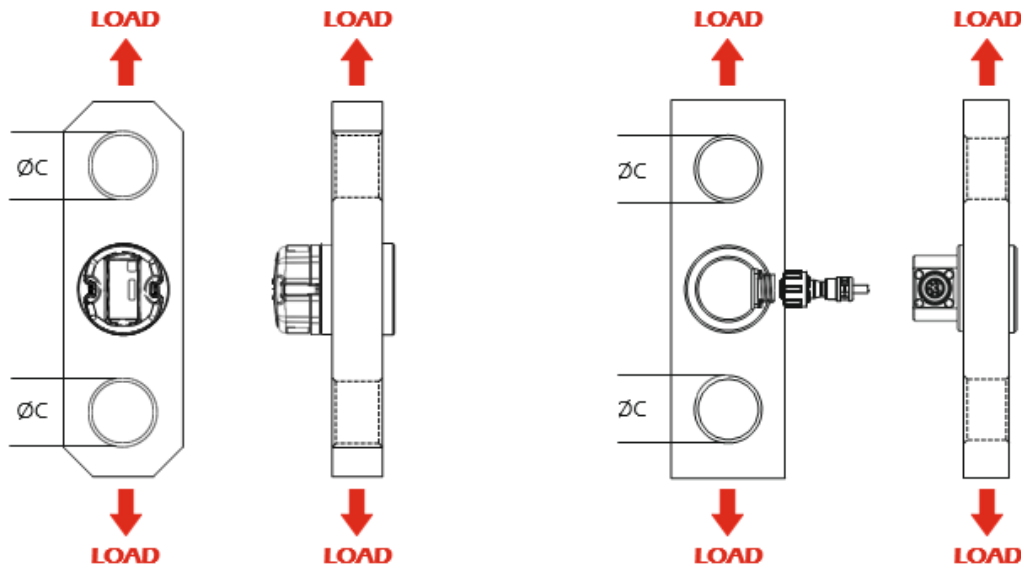
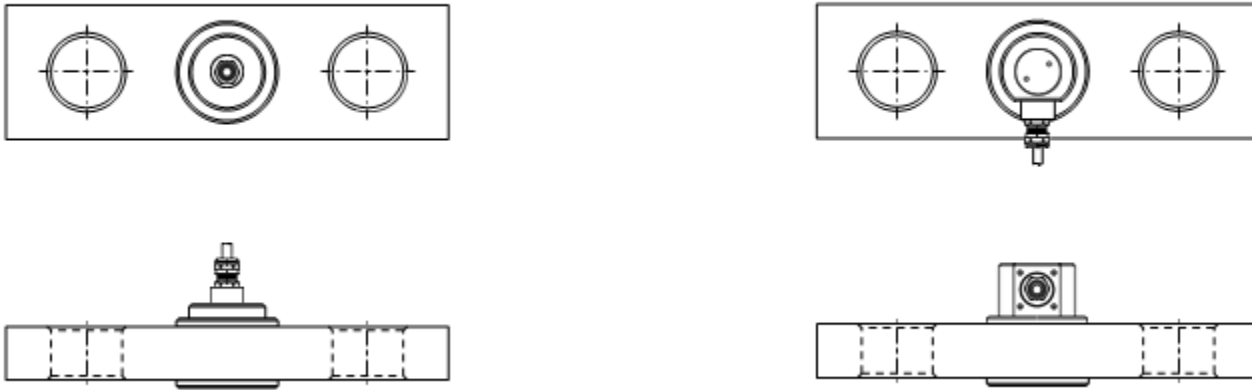

FIGURE 2
FIGURE 4
- The direction of the load applied to a link should be linear as shown in figures 2 & 3.
- The tension link should only be loaded in tension using the  $\varnothing$ C holes as shown see figure 2 & 3. See figure 4 for two common examples of installations.
With the tension link installed, check the displayed output is not negative, as this may indicate either a fault, or that a compressive force is being applied to the tension link. See Figures 2 and 3 for details of correct loading.